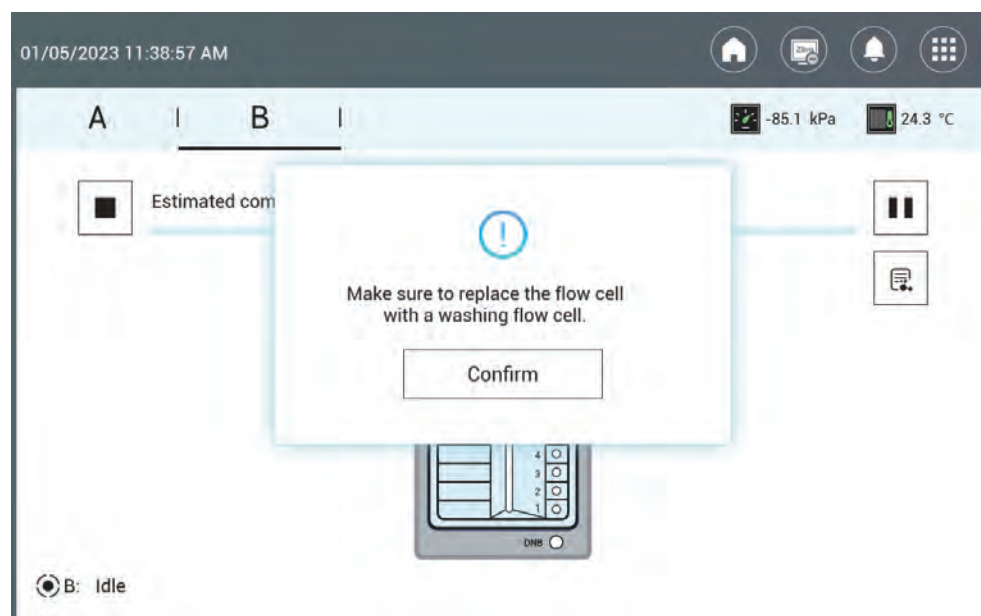

Figure 36 DL-T7RS flow cell loading complete status interface
16. The process takes around two hours. When the screen is shown as *Figure 36* on Page 76, the flow cell loading is complete.
18. When the loading is complete, install the washing flow cell onto the flow cell stage and press the flow cell attachment button. Close the flow cell compartment door. Select **Confirm** as shown in *Figure 36 on Page 76*.